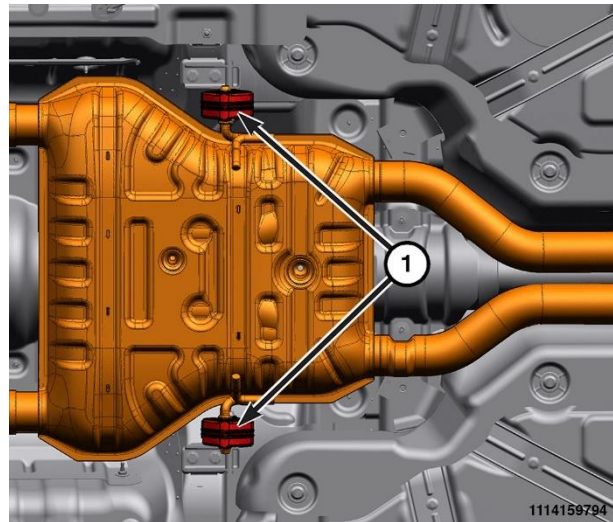

Figure 8 – Muffler Exhaust Isolators
12. **All vehicles:** Remove the two exhaust isolators (1) from the muffler (Figure 8).